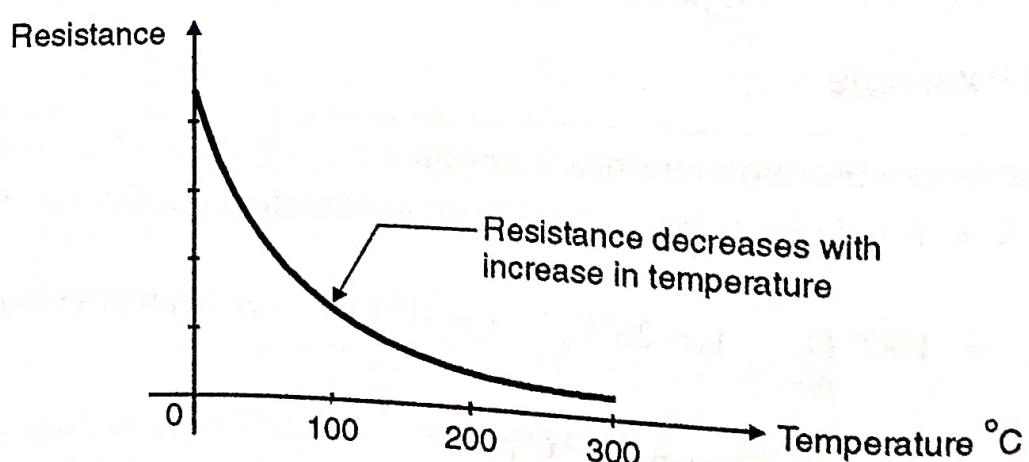

Fig. 1.12.14 : Variation in resistance of a thermistor with temperature
- The variation in the resistance of a thermistor is as shown in Fig. 1.12.14.
The resistance-temperature characteristics of a thermistor are non-linear. Fig. 1.12.14 shows this.